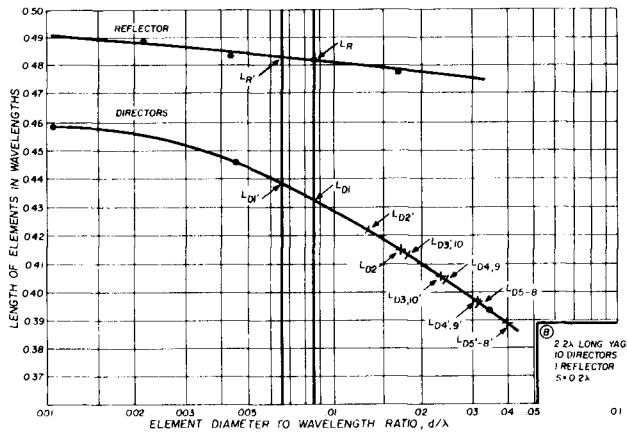

fig. 10. Use of the Yagi design curves (fig. 4) to determine the parasitic element lengths for a 12-element 205.25-MHz Yagi on a boom 2.2λ long (example 2).
1. Plot the director element lengths for the 2.2λ Yagi design from table 1 on the design nomograph (see fig. 10) for $d/\lambda = 0.0085$.